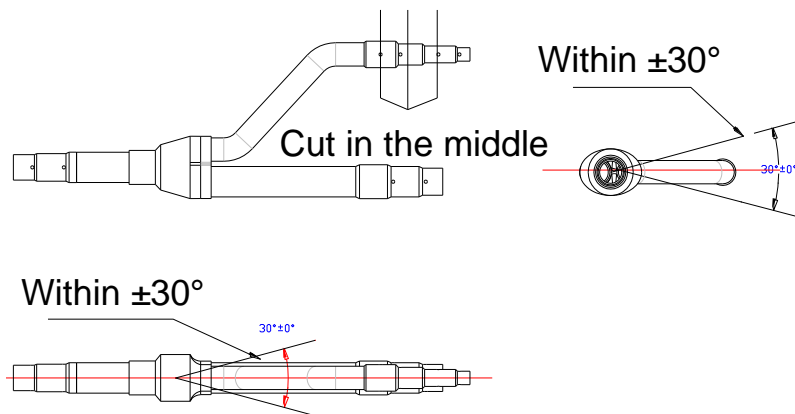

Fig. 17
(2) Y-type branch has several pipe sections with different dimension, which facilitates to match with various copper pipes. Use pipe cutter to cut in the middle of the pipe section that is of proper dimension and remove burrs as well. See Fig. 17.
(3) Y-type branch must be installed vertically or horizontally.